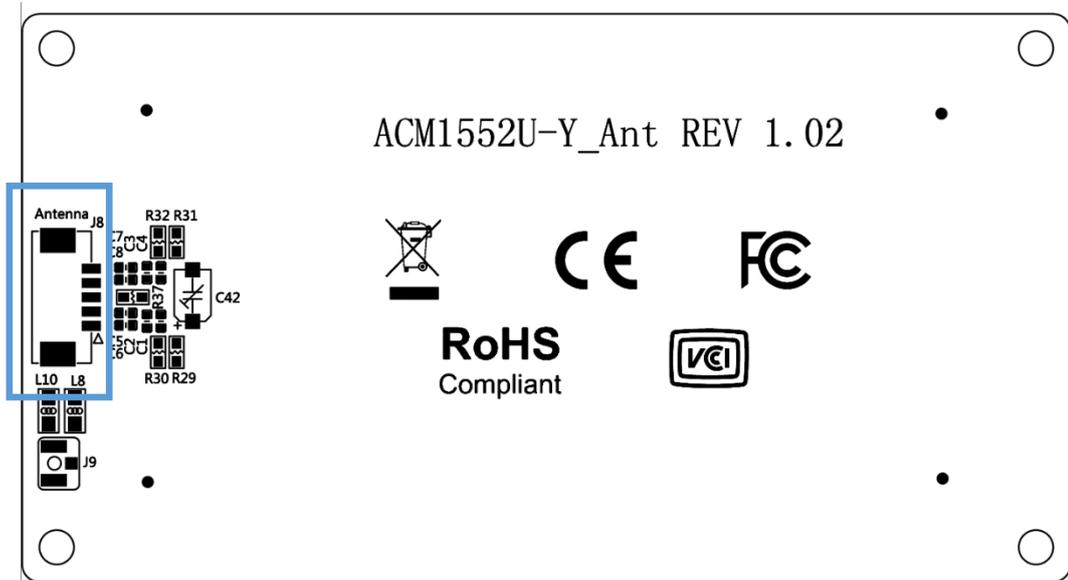

Figure 2: ACM1552U-Y Antenna Board
2. Connect antenna cable to **J8** of the ACM1552U-Y antenna board (see **Figure 2**).